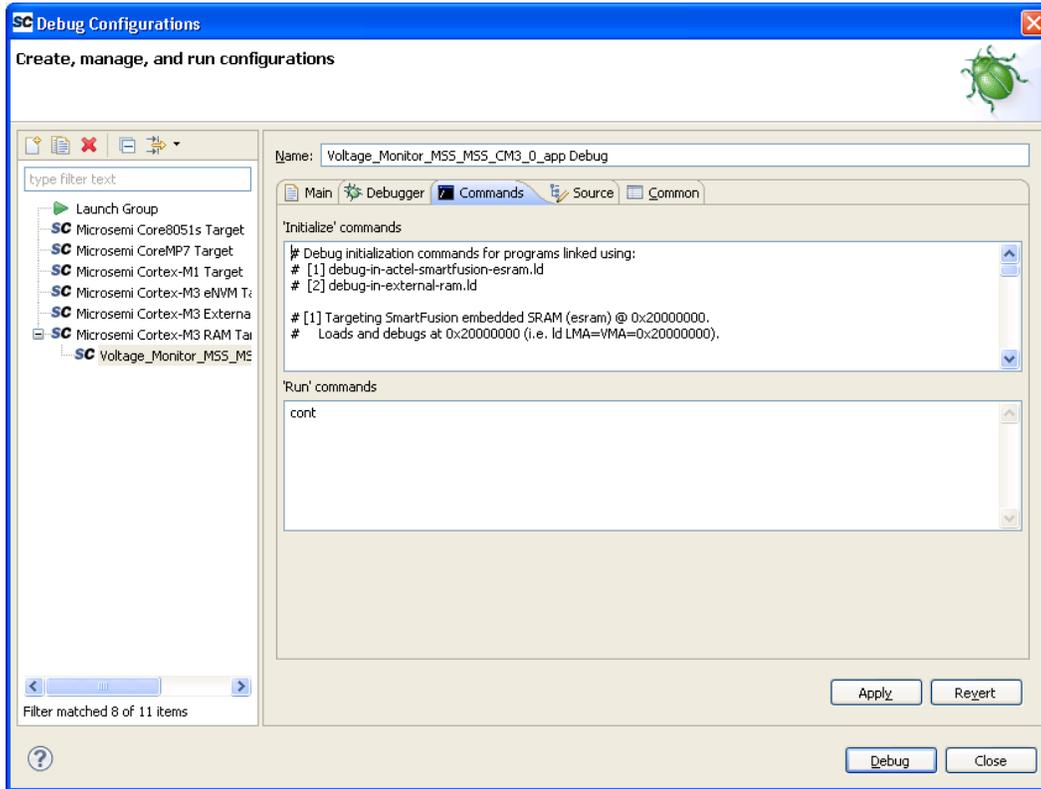

Figure 36 · Debugger Commands
4. Select the **Commands** tab. Confirm that commands appear in the Initialize and Run command sections, as shown in Figure 36 . :